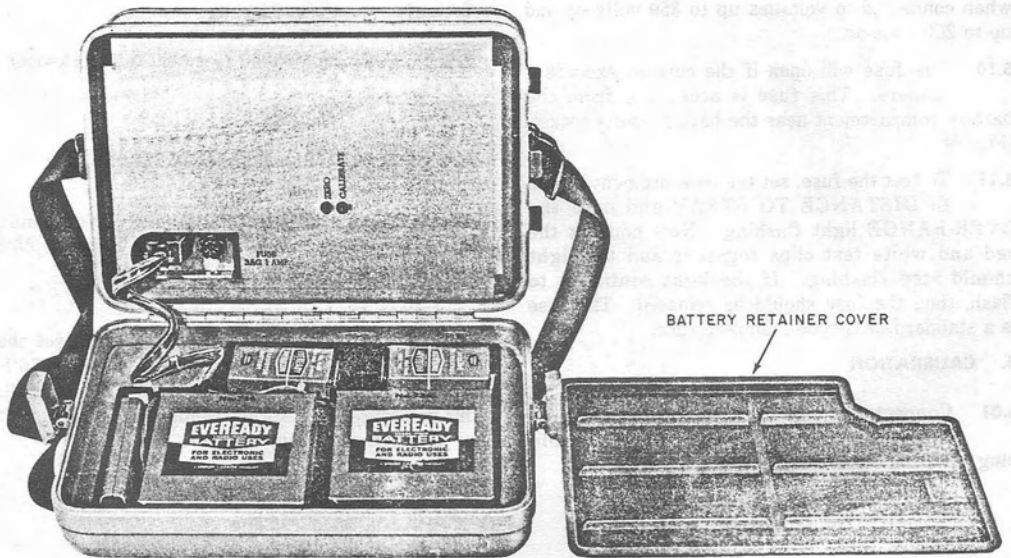

Fig. 9—Battery Compartment
5.07 **Electrical Zero:** Connect the white, yellow, and red test clips together and set the measurement switch to LOOPMETER. The meter should indicate null. The ZERO adjustment, located next to the battery compartment (Fig. 9), may be used to set the instrument to an exact null.
5.08 The batteries will provide up to 500 hours of operation or six months to one year of service. All of the batteries will reach the replacement point at about the same time so it is advisable to replace the complete set of batteries at one time (Fig. 9 and Table C.)
**5.10** The fuse will open if the current exceeds 1 ampere. This fuse is accessible from the battery compartment near the battery cable socket. (Fig. 9).